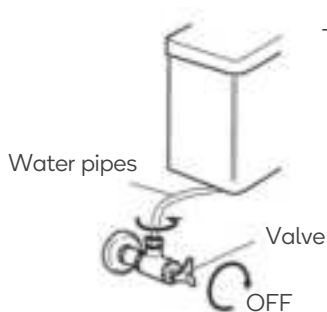

Figure 1
- Close inlet valve and remove water pipe (Figure 1).